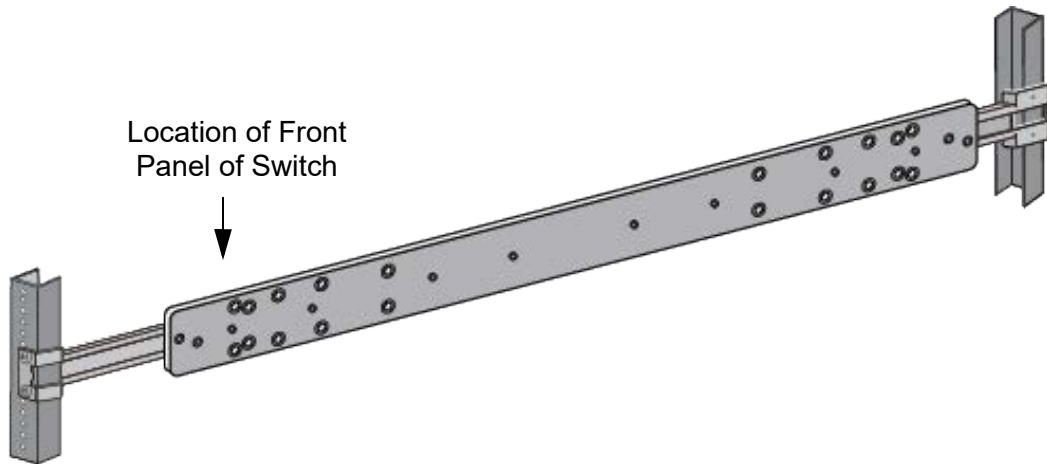

Figure 108. Example of Positioning the Inner Rail
2. Position the inner rail at the planned location for the front panel of switch in the sliding rack. Refer to Figure 108.